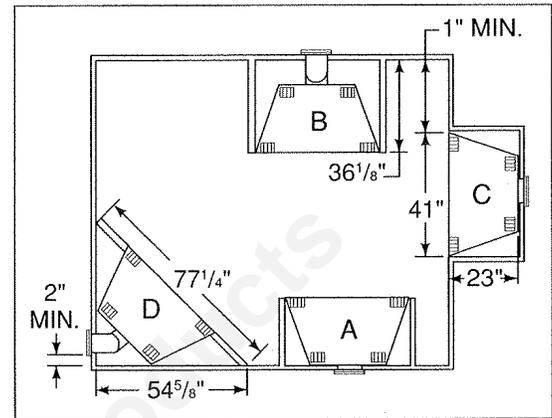

Figure 2
The GC200 or GC200L gas appliance can be installed in a wide variety of ways and will fit nearly any room layout. It may be installed in a recessed position, framed out into the room, or across a corner. The unit may be installed at a height level with the floor, or it can be raised up from the floor to enhance its visual impact. Figure 2 illustrates a variety of ways the appliance may be located in a room.
Proper clearances to combustible sidewalls, as illustrated in Figure 2, must be maintained.
This installation can be done in two configurations, as shown in Figure 2, position B or D. These installations require the use of Vent Kit VK3. This Kit contains (2) 4" dia. 90° elbows, (2) 8" dia. 90° elbows, (1) 4" dia. 3' pipe and (1) 8" dia. 3' pipe.